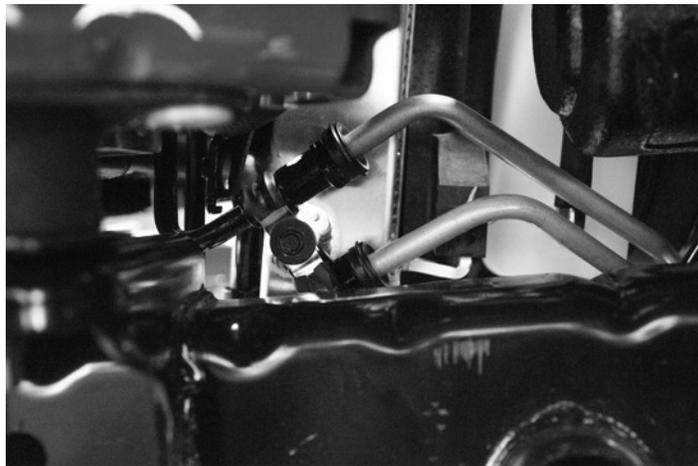

Figure 46
35. Connect transmission oil cooler lines to transmission cooler. (fig 46).